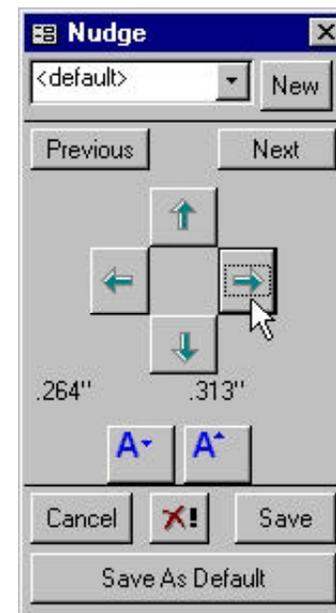

Figure 38: The Nudge tool.
7. Select the form size you have just made into the **Paper Size** field as shown in Figure 38.
You may sometimes need to make minor adjustments to individual fields on the shipping paper to get it to print correctly. Always try to adjust your margins first, but if that doesn't solve the problem, use the Nudge tool (see Figure 38).